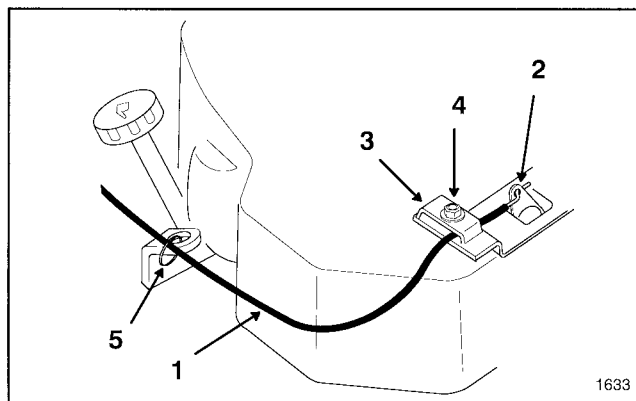

Figure 6
2. Route choke cable under fuel tank bracket and around right side of engine (Fig. 6).
3. Hook cable "Z" end into hole in choke lever (Fig. 6). Loosen cable clamp screw and install cable under clamp.
4. Push firmly on choke cable until choke lever is in the full open position. Tighten cable clamp screw (Fig. 6).
5. Secure choke cable to lift ring, on right side of engine, and handle, just above fuel tank bracket, with cable ties (Fig. 6).